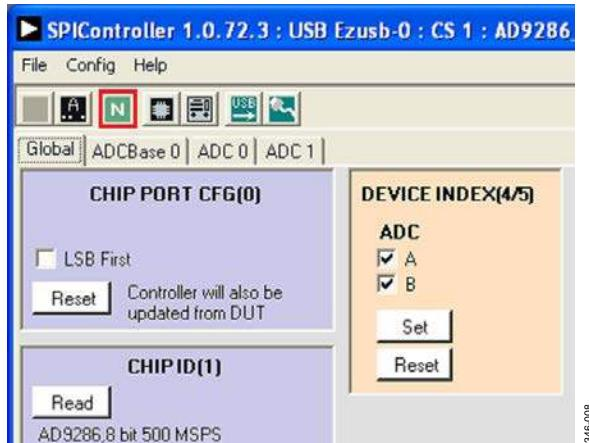

Figure 8. SPIController, New DUT Button
2. Click the **New DUT** button in the SPIController window (see Figure 8).